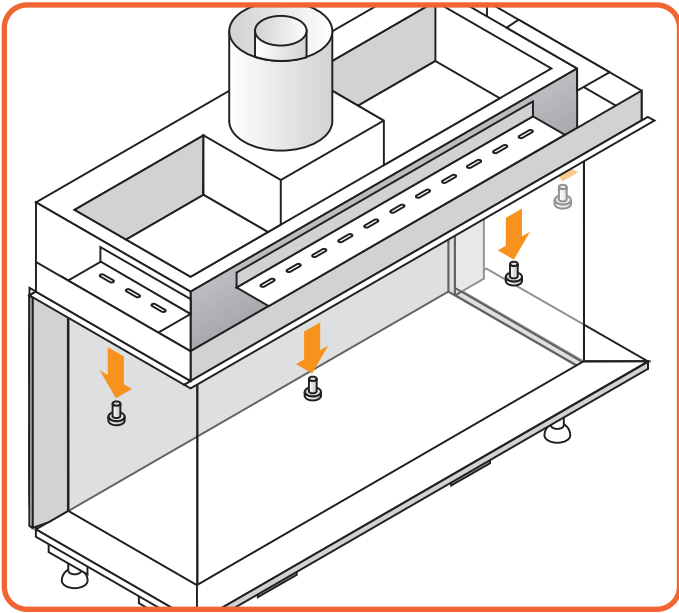

Figure 9.2 | Remove screws from the top trim
- Remove the screws from the top trim, Figure 9.2